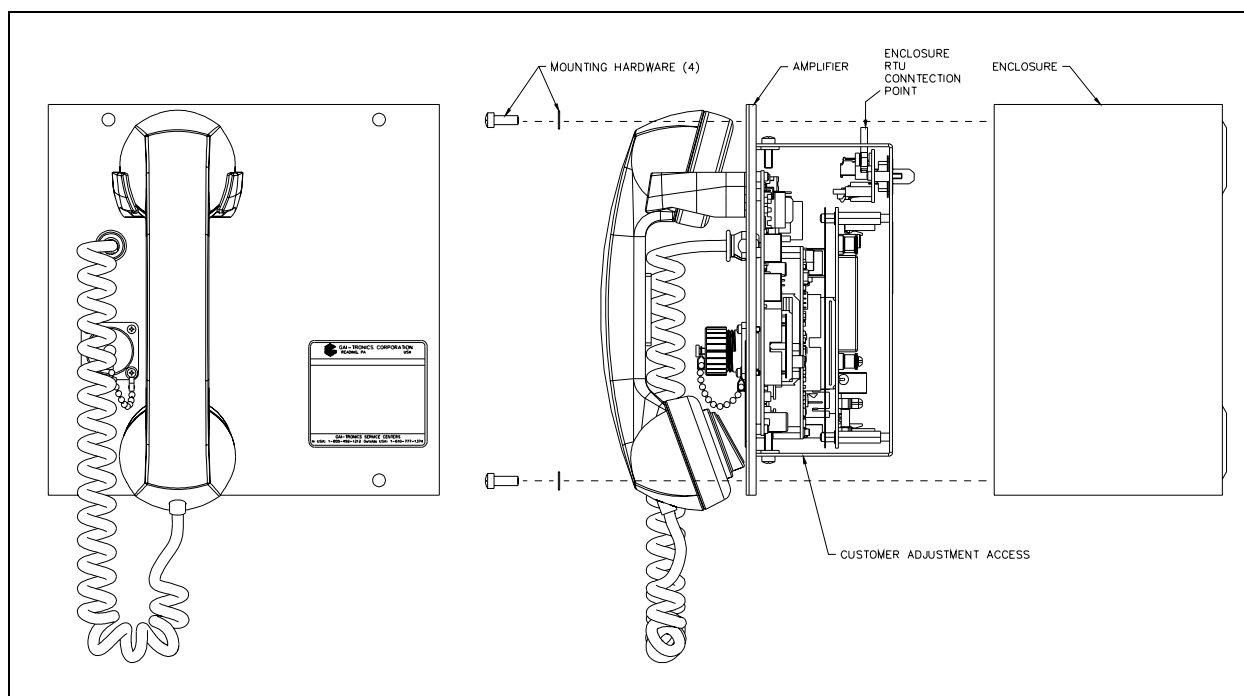

Figure 2. Installation Detail
The ICS DC-powered Page/Party® Plug-in Amplifier plugs directly into the enclosure. Figure 2 shows installation details. Please refer to the applicable amplifier section when you are installing and adjusting the amplifier. Use extra care not to damage the protruding latch wings of connector P6 located on the top right edge of the amplifier during installation and removal.
2. Attach the amplifier to the enclosure with the hardware provided. See Figure 2.